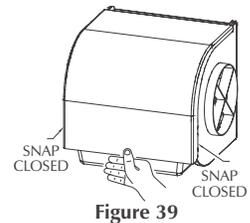

Figure 39
14. With the front cover installed grasp the bottom and pull down until fully closed, it will snap closed at the bottom (Fig. 39).